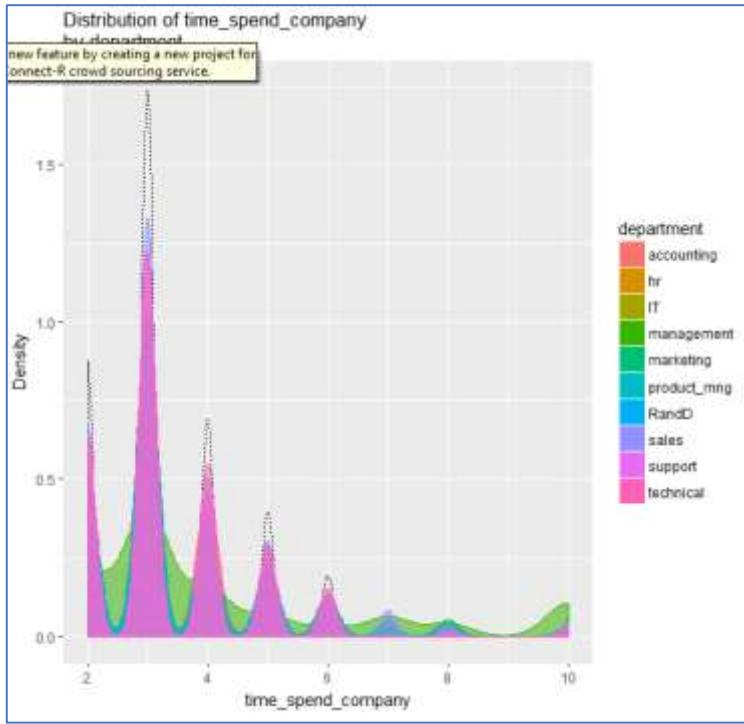

Fig. 4
- **Time spend in the company vs Department:** Time spent by technical employees is lesser compared to other employees as their time spent peaks around 3 years. Management employees have a pretty distributed time spent histogram. Fig 4 illustrates the aforementioned inference.